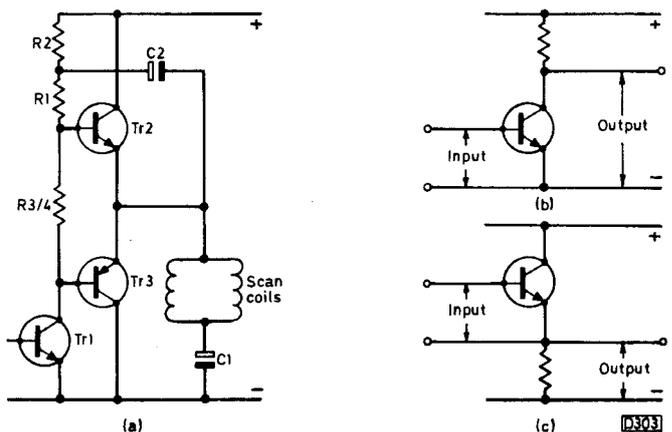

Fig. 1: Common-emitter or emitter-follower circuit?
It didn't take long to find that the tuning voltage (Mullard ELC1043 varicap tuner) at the 32V end of the 8.2k Ω supply resistor R3 (see Fig. 1) was varying, although the 90V end (derived from the line output stage) was steady. The resistor appeared to be o.k., so we suspected the zener IC1 of not zenering. This proved to be correct, a TAA550 sorting that one out. Upon inspection however the 12V mixer supply resistor R28A seemed to be in danger of
I've found the series on *Transistors in TV Circuits* very interesting but would like to query the account of the bootstrap arrangement in the field driver/class B output stage given in the June issue, where it's stated that both stages are common-emitter circuits. One of the properties of a common-emitter circuit is that there is a 180° phase reversal between the input and output. But in this case – see Fig. 1(a) – the a.c. voltages at the inputs (bases) of the complementary output transistors TR2/3 are in phase with the output which is taken from the emitters, with the collectors grounded, i.e. the circuit is an emitter-follower.
S. W. Amos comments: R. Wallace is correct in saying that the input and output signals of a common-emitter amplifier are in antiphase – but only when the output is taken from the collector circuit as shown in Fig. 1(b). If the output is taken from the emitter circuit as in Fig. 1(a) and (c) the output signal is in phase with the input signal. Fig. 1(c) is probably a better way of showing a common-emitter circuit than the usual way – Fig. 1(b) – because it's so clear that the emitter terminal is common to the input and output circuits. Perhaps my explanation of the circuit's behaviour would have been clearer had I said "if TR2 and TR3 were emitter-followers their high input resistance would have made it difficult for TR1 to drive adequate current into them. In fact the voltage drop across R1 would probably have equalled the supply voltage before full output was obtained from the amplifier. But by making TR2 and TR3 into common-emitter stages their input resistance is reduced to a value at which TR1 can supply the input current with ease and the voltage developed across R1 and the input of TR2 and TR3 would be only a fraction of the supply voltage even when the amplifier is delivering maximum output."